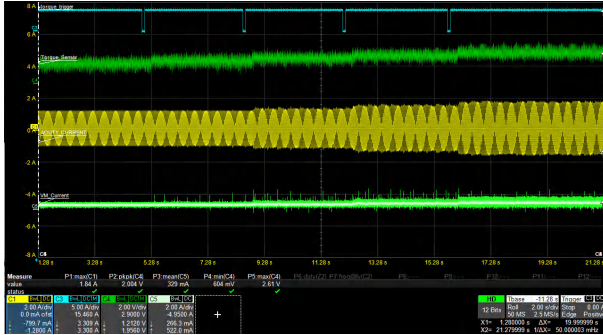
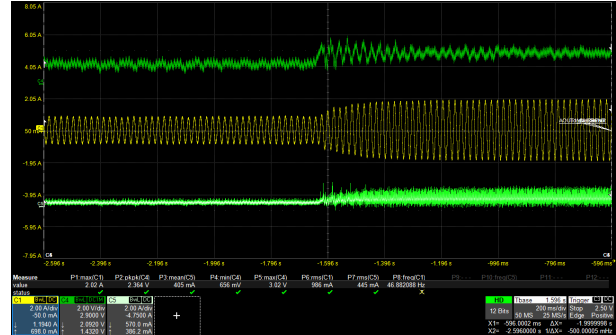

Figure 2-22. KD = 0, Load Torque Changed From 0.3 Nm to 0.57 Nm
Figure 2-23. KD = 5, ATQ\_D\_THR = 30, Load Torque Changed From 0.3 Nm to 0.57 Nm
- Increasing the value of KD will cause the control system to react more strongly to changes in the error term and will increase the speed of the overall control system response, as shown by Figure 2-22 and Figure 2-23.